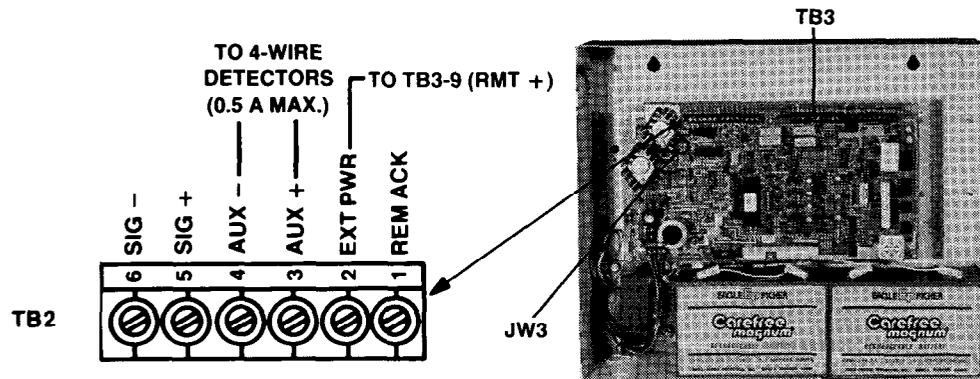

FIGURE 13
- B. Cut jumper JW3 on the control panel as shown in Figure 13.
- C. Connect the wires used to power the detectors as shown in Figure 13.